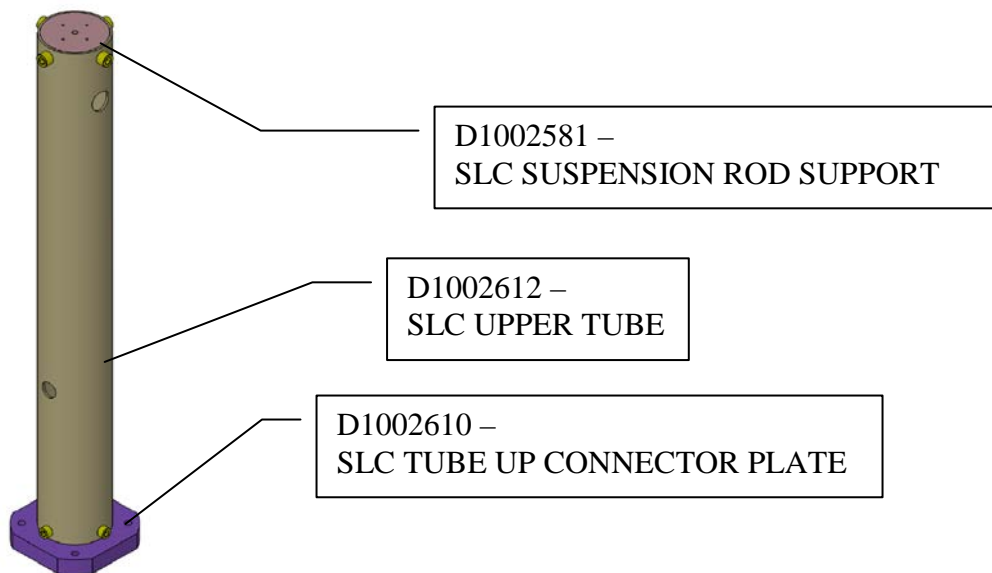

Figure 3: Baffle Tube Up Assembly
1. Insert D1002581 – SLC SUSPENSION ROD SUPPORT into D1002612 – SLC UPPER TUBE on end closest to view holes, see Figure 3. Align with fastener holes. Parts may not slide together with ease.
2. Insert D1002610 – SLC TUBE UP CONNECTOR PLATE into D1002612 – SLC UPPER TUBE on end furthest from view holes, see Figure 3: Baffle Tube Up Assembly. Align with fastener holes.